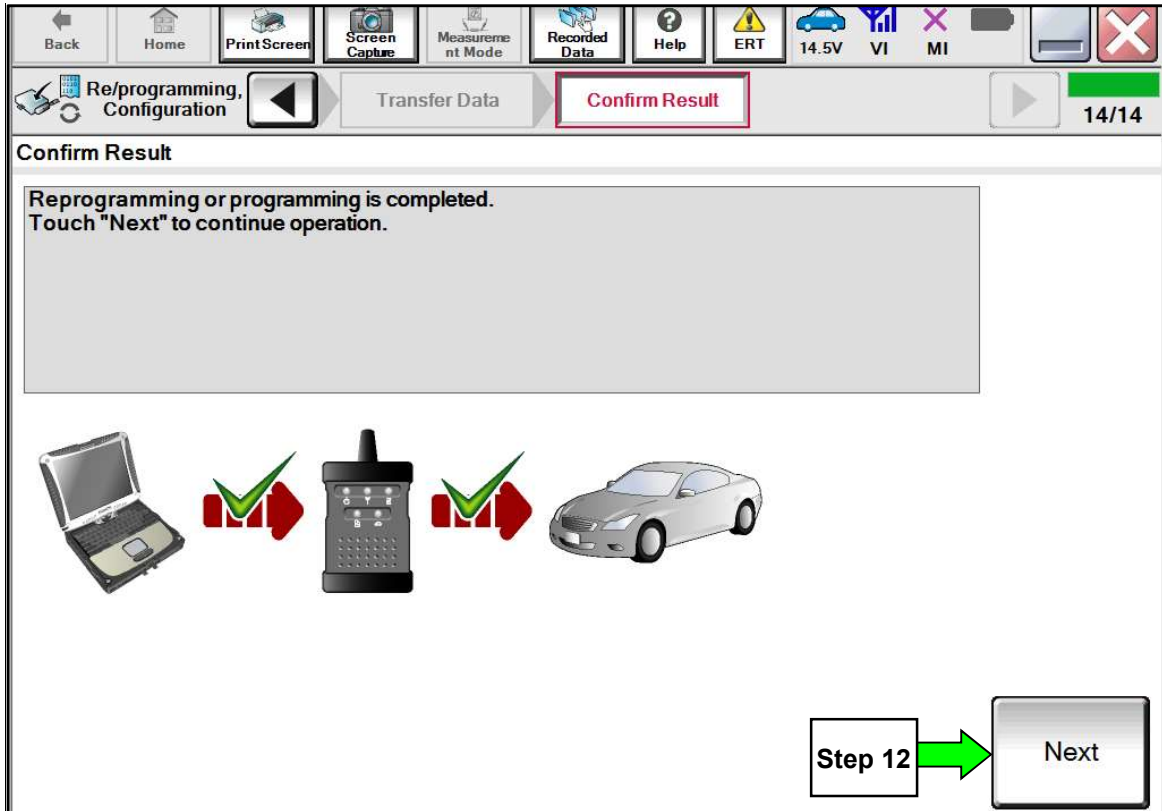

Figure 5
10. When the screen in Figure 5 displays, reprogramming is complete.
NOTE: If the screen in Figure 5 does **not** display (reprogramming did not complete), refer to the ECM Recovery information on Page 8.